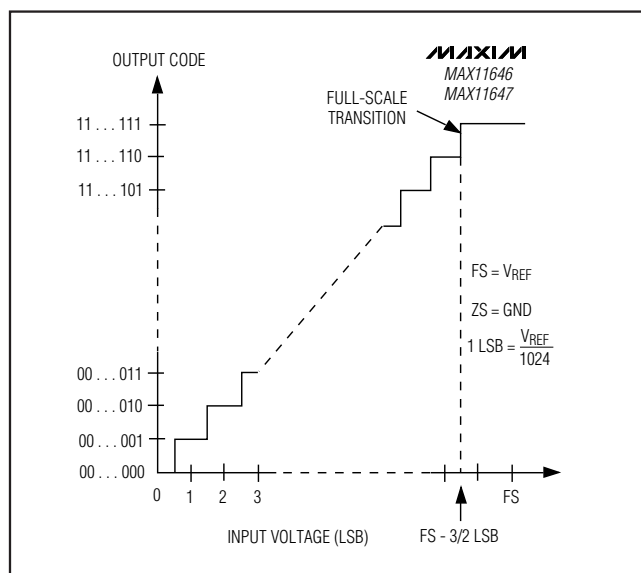

Figure 12. Unipolar Transfer Function
Output data coding for the MAX11646/MAX11647 is binary in unipolar mode and two's complement in bipolar mode with 1 LSB = ($V_{REF}/2^N$) where N is the number of bits (10). Code transitions occur halfway between successive-integer LSB values. Figures 12 and 13 show the input/output (I/O) transfer functions for unipolar and bipolar operations, respectively.